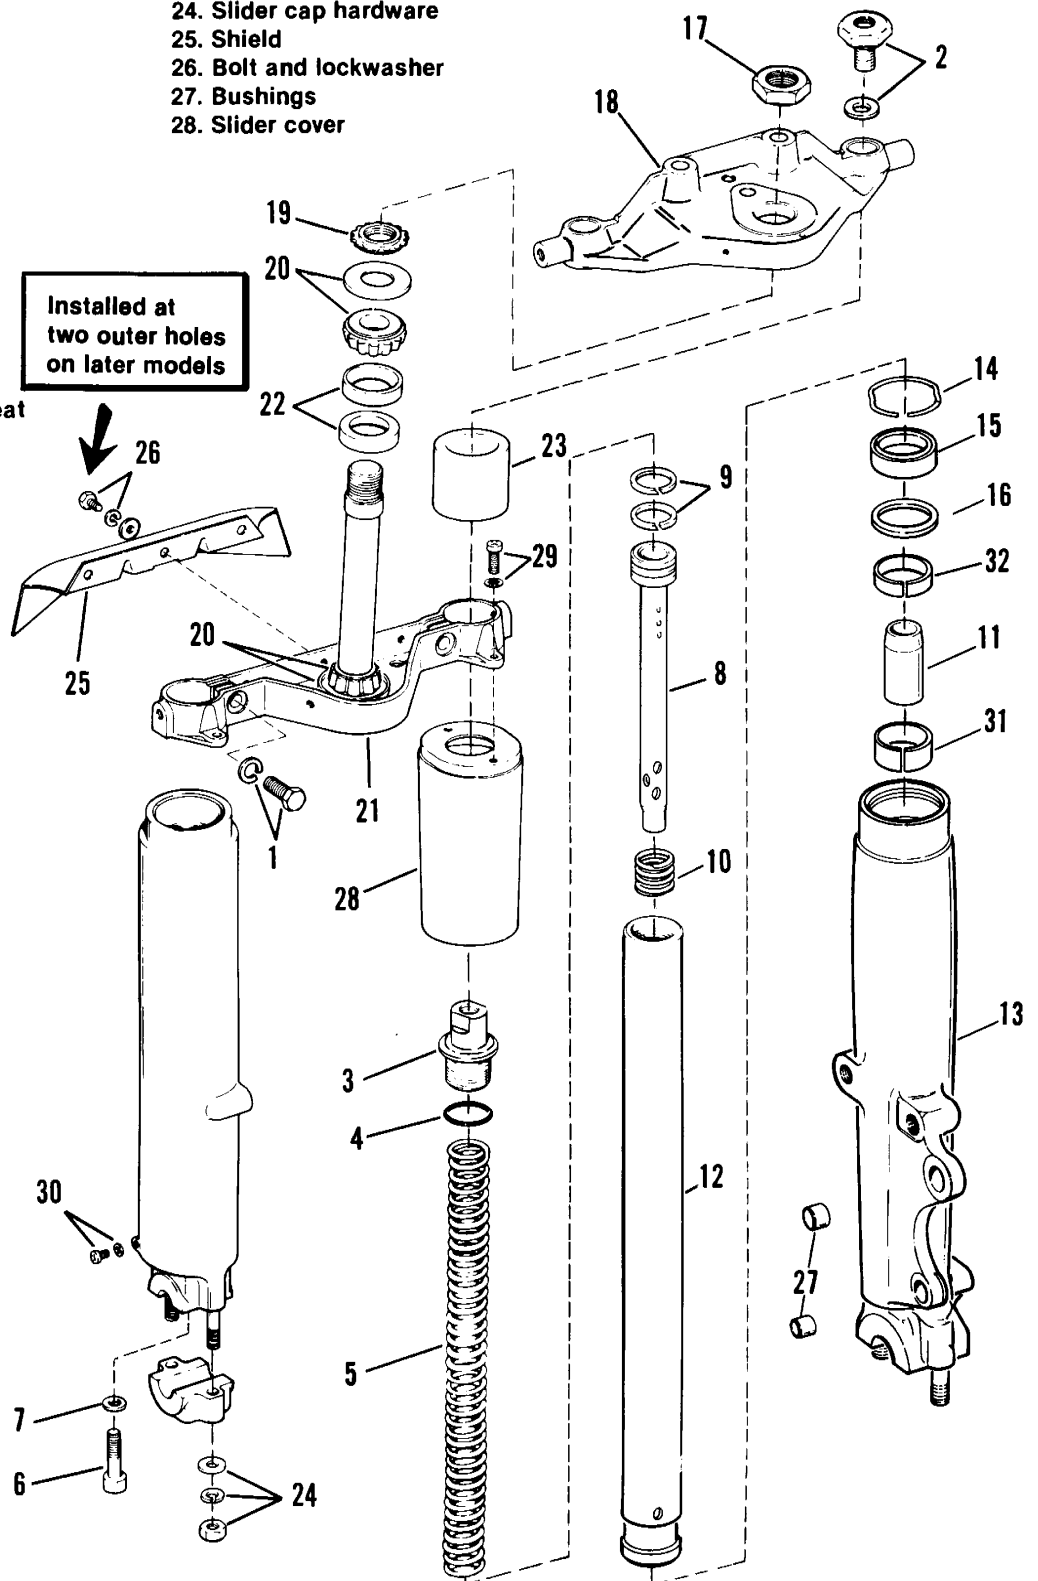

Figure 2-68. Front Fork — FLT Models
FLT Models (Figure 2-68)
3. Install the fork cap bolts and seals (2, Figure 2-68) and tighten the pinch bolts (1, Figure 2-63) to 25 ft-lbs torque.